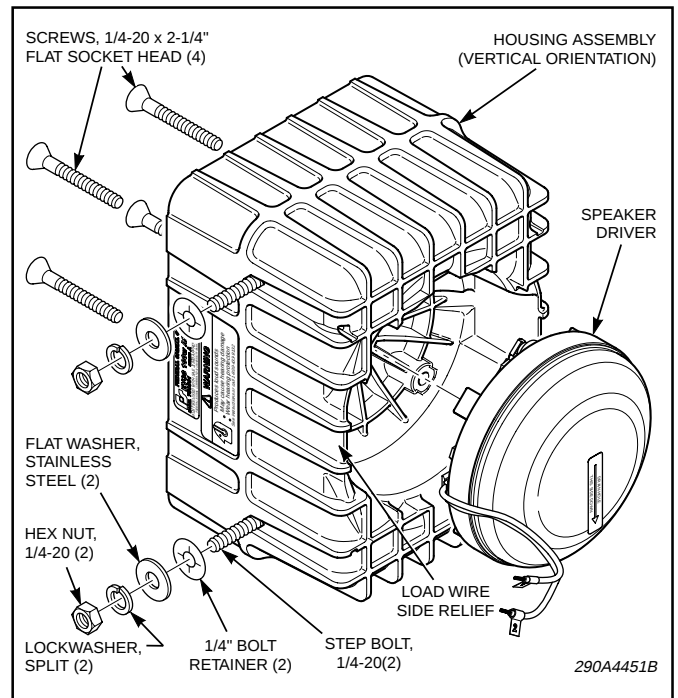

Figure 4.
5. Reinstall the driver into the housing assembly so as the label maintains its downward positioning and the lead wires exit at one of the side reliefs. (See figure 4.)